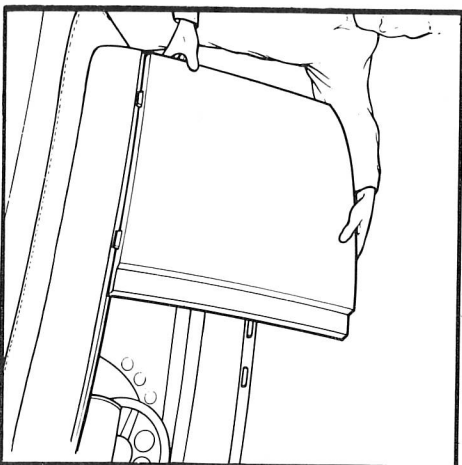

Fig. 22 Erecting Passenger Roof Panel.
d) Completely collapse the rear header. Open both passenger and drivers door. Take passenger side roof panel out of its protective cover. Offer the passenger side roof panel in an upright position to the rear header (See Fig. 22). Ensure that both locating lugs on the roof panel are positioned to fit into the recessed lugs in the rear header. The panel can now be left upright without support.